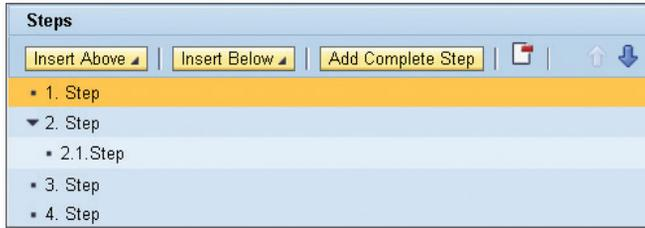

Figure 7.13 Step and Substep Inserted
3. Select the SUB-STEP option from the selection list that opens. If you insert a step that comprises a substep, the display screen changes accordingly (see Figure 7.13).